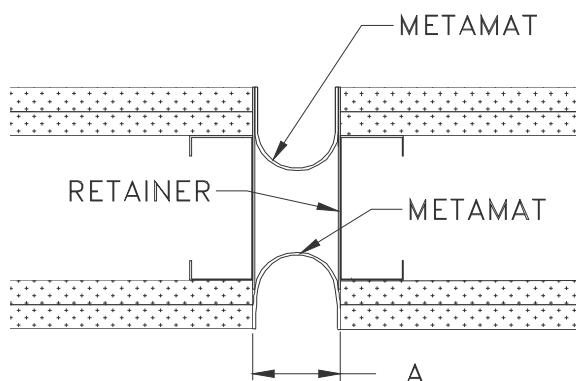

Figure 3
**STEP 2.** Select the front layer of MetaMat fire barrier. Place this layer into its installed position so that its edges are flush with the surface of the wall and so that it spans the joint (Figure 3). Note that it may be necessary to fold, without creasing, the layers of MetaMat together with one another.